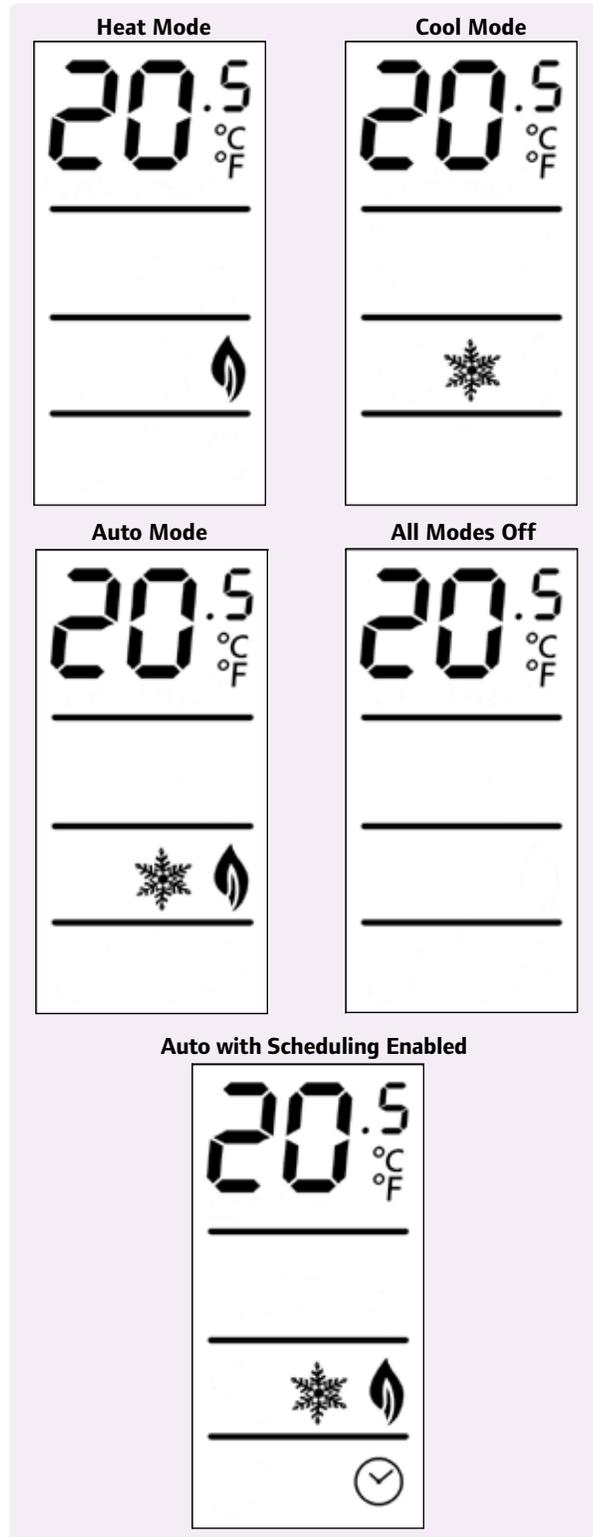

Figure 4-1: Selecting Modes
- Press the (+) or (-) button for the desired mode as shown in **Figure 4-1**.